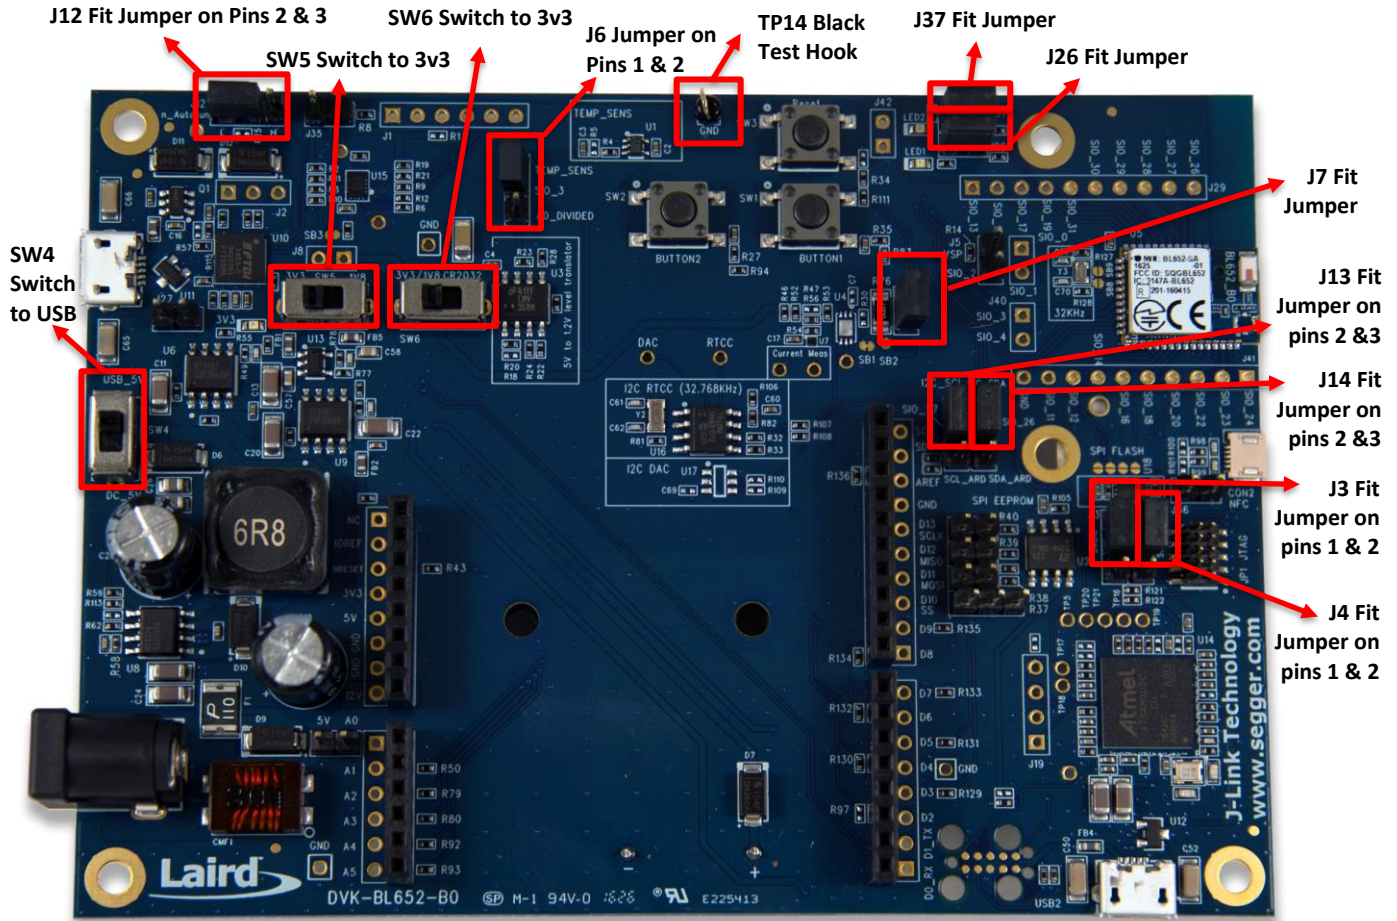

Figure 3: Correct DVK- BL652 development board jumper and switch settings
**Important!** To ensure correct out-of-the-box configuration, the BL652 development board must be set according to Figure 3.